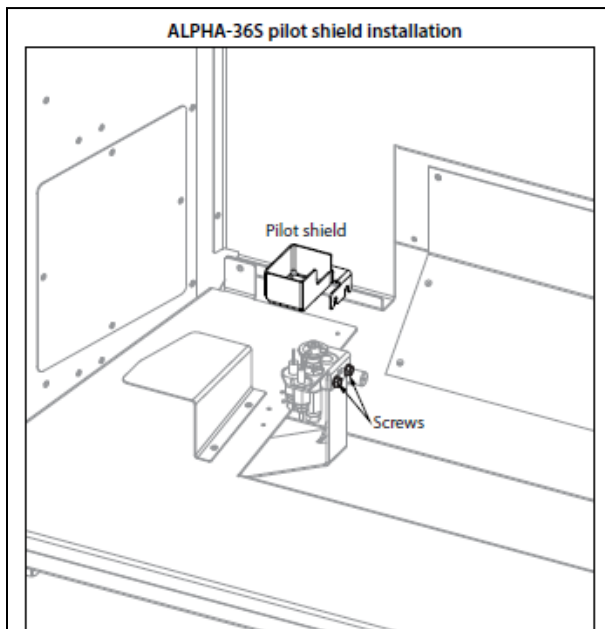

Figure 1.2 - #ALP-36S Pilot Shield Installation
2. Loosen, but do not remove, the (2) screws securing the pilot assembly to the pilot bracket.
3. Insert the pilot shield slots onto the pilot bracket screws, as shown in Figure 1.2.